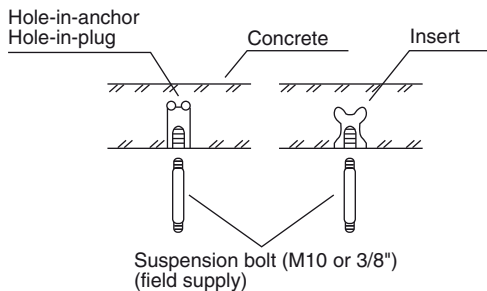

**Fig. 3-5**
- (1) Place the full-scale diagram (supplied) on the ceiling at the location where you want to install the indoor unit. Use a pencil to mark the drill holes (Fig. 3-5).